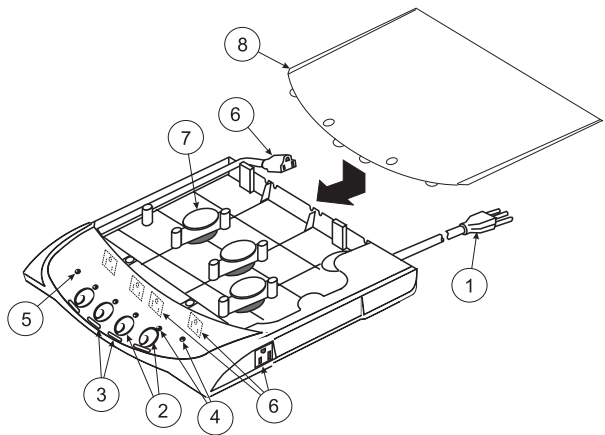

Figure 1 - PowerManager (cover removed)
Please refer to Figure 1 for the following information and instructions.
- Remove the PowerManager from the box. Please refer to Figure 1 for identification of PowerManager features.
- Remove the cover ⑧ from the unit by depressing both top cover buttons with your thumbs while sliding the cover rearward.
- Make sure the Master Power Switch ② is OFF. With the PowerManager facing you, the Master Power Switch is the switch on the far right. The switch is OFF if it is protruding from the main housing.
- Connect the Power Cord ① into a 100VAC receptacle. It is highly recommended that the PowerManager be grounded for best protection against lightning induced surges.